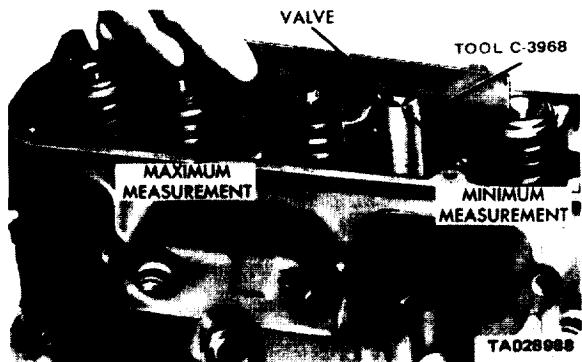

Figure 11-25. Measuring Valve Stem Length.
(1) Coat the valve stems with lubrication oil and insert them in the cylinder head.
(2) If the valves or seats have been reground, use tool C-3968 to check the valve stem height (figure 11-25). If the valve is too long, grind off the tip until the length is within limits.